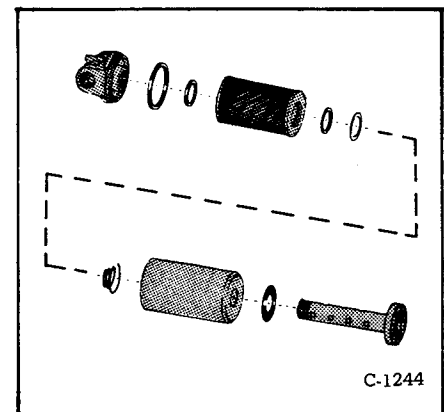

Fig. 4 Hydraulic Oil Filter
(5) Reassemble the filter on the filter head. Figure 4 shows the relationship of parts. Check the quad-ring seal on the filter head for damage before reinstalling the can.
(5) Reassemble the filter on the filter head. Figure 4 shows the relationship of parts.